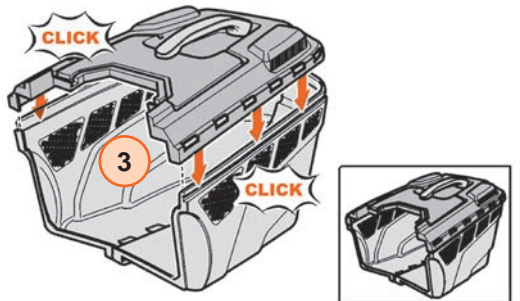

Figure 6
2. Secure with two screws at the bottom of the grass catcher ② (see Figure 6).
3. Attach the upper grass catcher component to the lower portion and press together until they click ③.